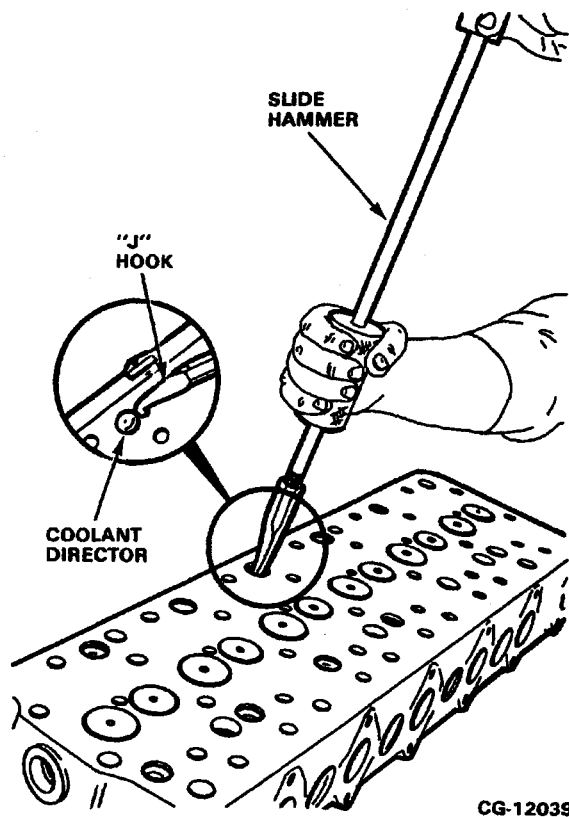

Figure 4.24. Remove Coolant Director
1. Remove loose coolant directors, using a "J" hook seal puller and a slide hammer. Insert the "J" hook under the coolant director opening. Refer to **Figure 4.24**.